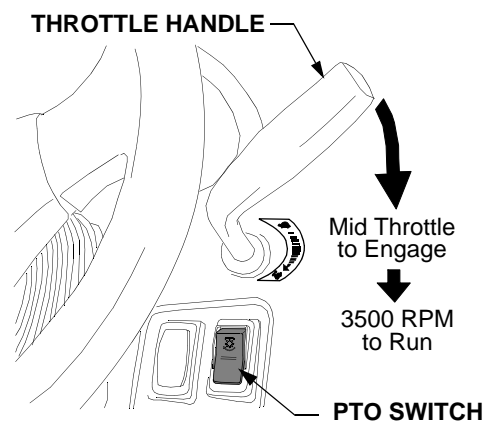

Figure 20
- Move the throttle handle to the mid throttle position. See Figure 20.
- Push the *top* of the PTO switch downward to engage the PTO (See Figure 20). The PTO light on the instrument panel will come on.